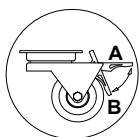

Fig.4 Wheel system, moving system
- The device should be placed on an even and on a sufficiently hard base, and then level it with the help of levelling feet. In case of moving devices it is necessary to immobilise wheels in order to prevent their movement during exploitation Fig.4 (p.18)